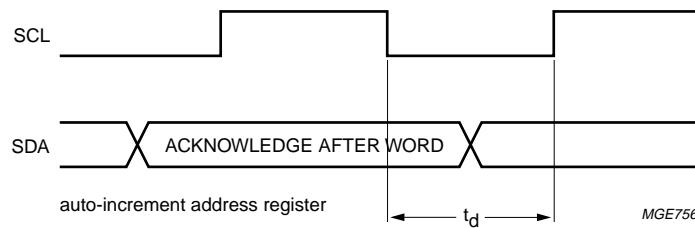

Fig.11 Timing of reduced I²C-bus frequency.
1. By making the I²C-bus master insert a delay (t_d) after the acknowledge pulse (see Fig.11). The delay should be larger than or equal to $1/f_s$ where f_s is the I²S-bus sampling frequency.